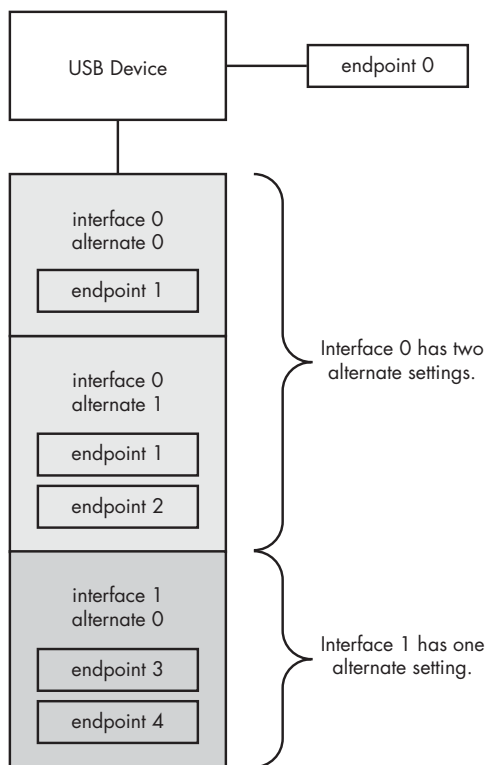

Figure 15-1: An example USB device layout
Figure 15-1 depicts the relationship between endpoints, interfaces, and alternate settings.¹
1. Figure 15-1 is adapted from *Developing Drivers with the Windows Driver Foundation* by Penny Orwick and Guy Smith (Microsoft Press, 2007).